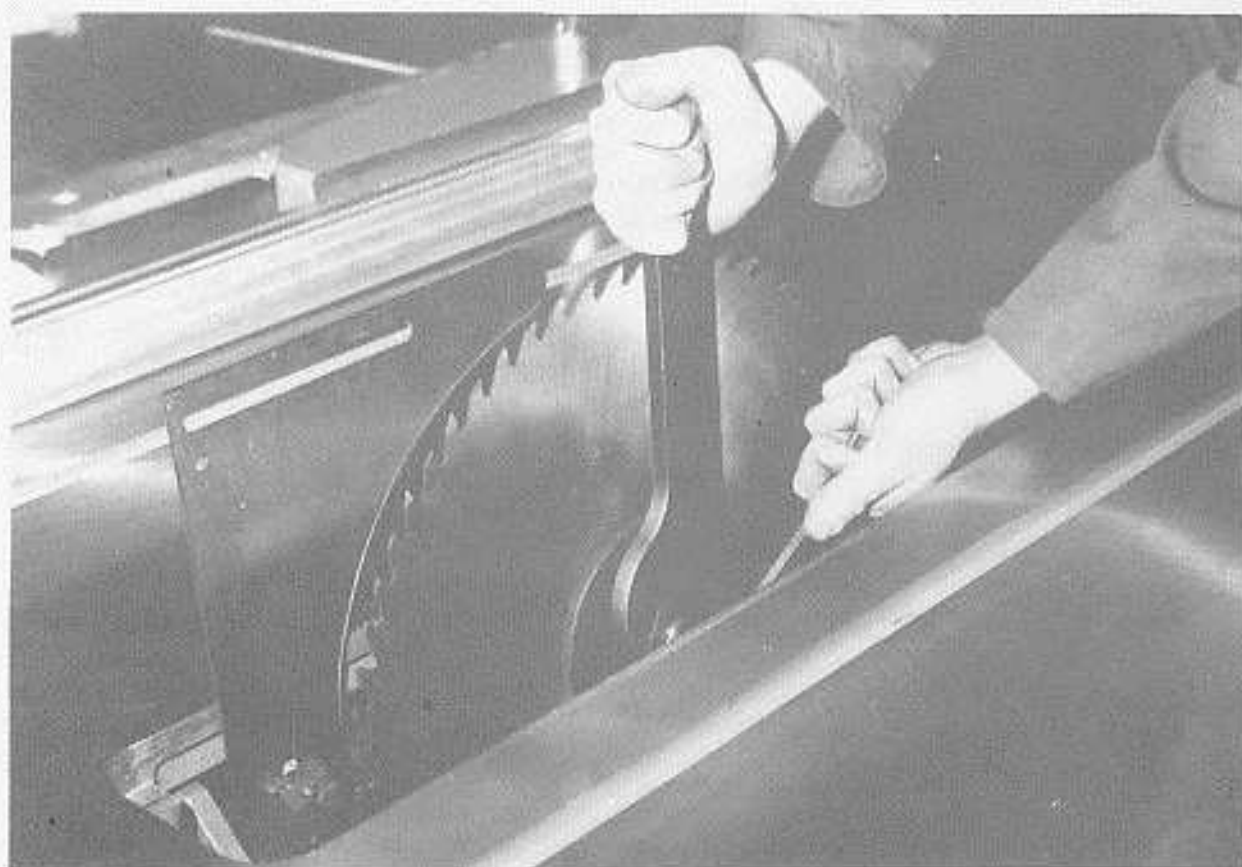

FIG.14
- h) Lock saw securely in position with spindle nut (left hand thread) as shown in FIG.14.